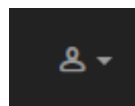

Figure 9. Partner Portal (Profile icon)
3. Hover the mouse cursor over the Profile icon in the upper right-hand corner of the web page (Figure 9 \(page 51\)). Click the **Account** option.